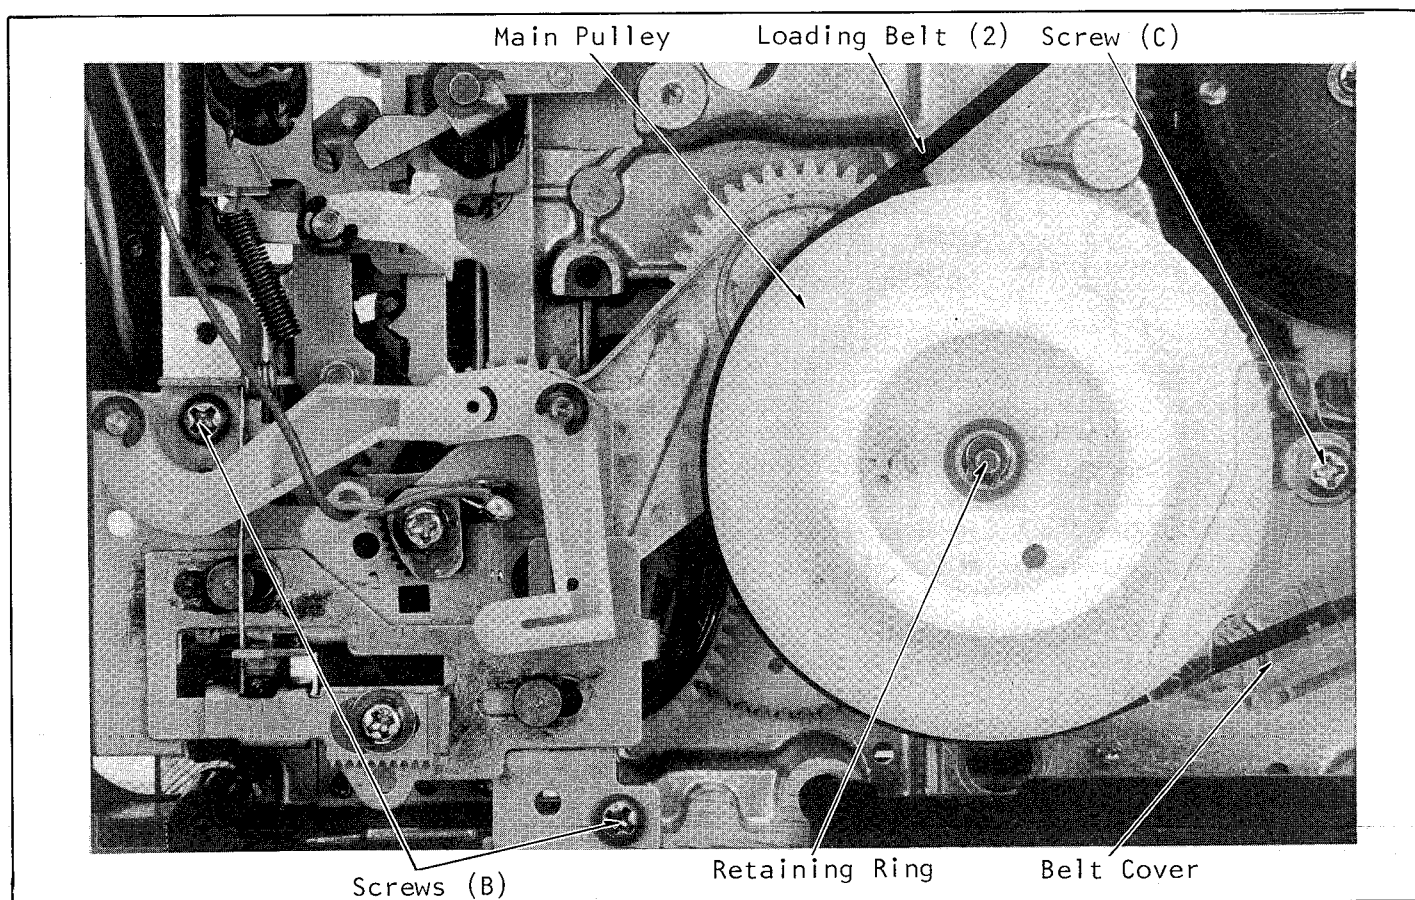
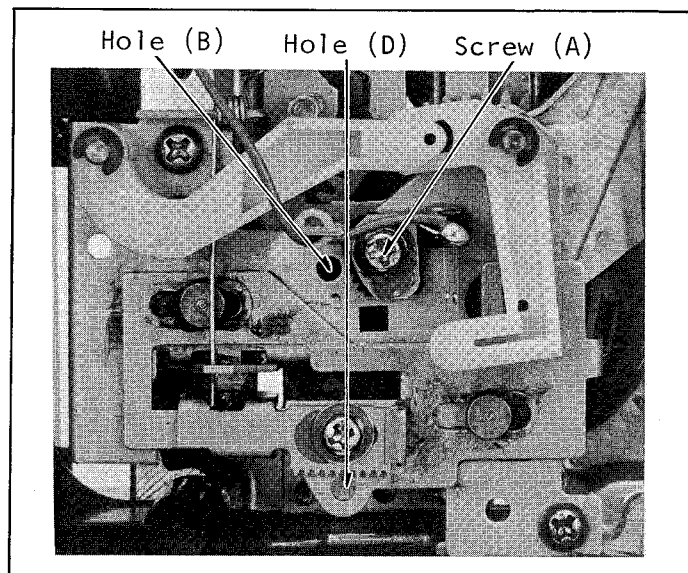

Fig. M61. Adjustment of Cam Gear and Mode Select Switch - (9)
Fig. M65. Adjustment of Cassette Up Detector - (1)
2. Remove the cassette up holder, disconnect AC cord, turn the main pulley (on Fig. M61) fully clockwise so the mode select switch is set to Eject Mode and confirm the gap (C). Specification of gap (C) is 1.5 ~ 2.0 mm. If the gap (C) is out of specification, adjust the hole (D). (See Fig. M65.)